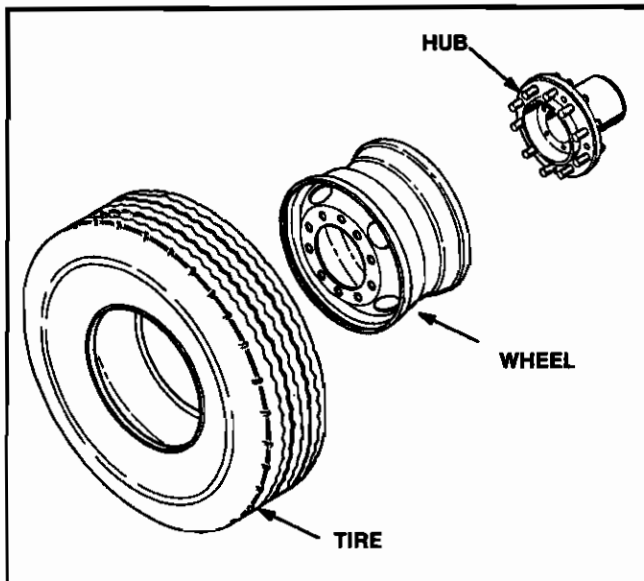

Figure 1. Tire, Wheel & Hub and Drum
3. Hub mount wheels are used with two-piece flange nuts (see Figure 1) which contact the wheel disc face around the bolt hole and do not rely on contacting the bolt hole chamfer to function properly. The wheel nuts provide only clamping force, as the locating forces are provided by the hub-to-wheel interface.